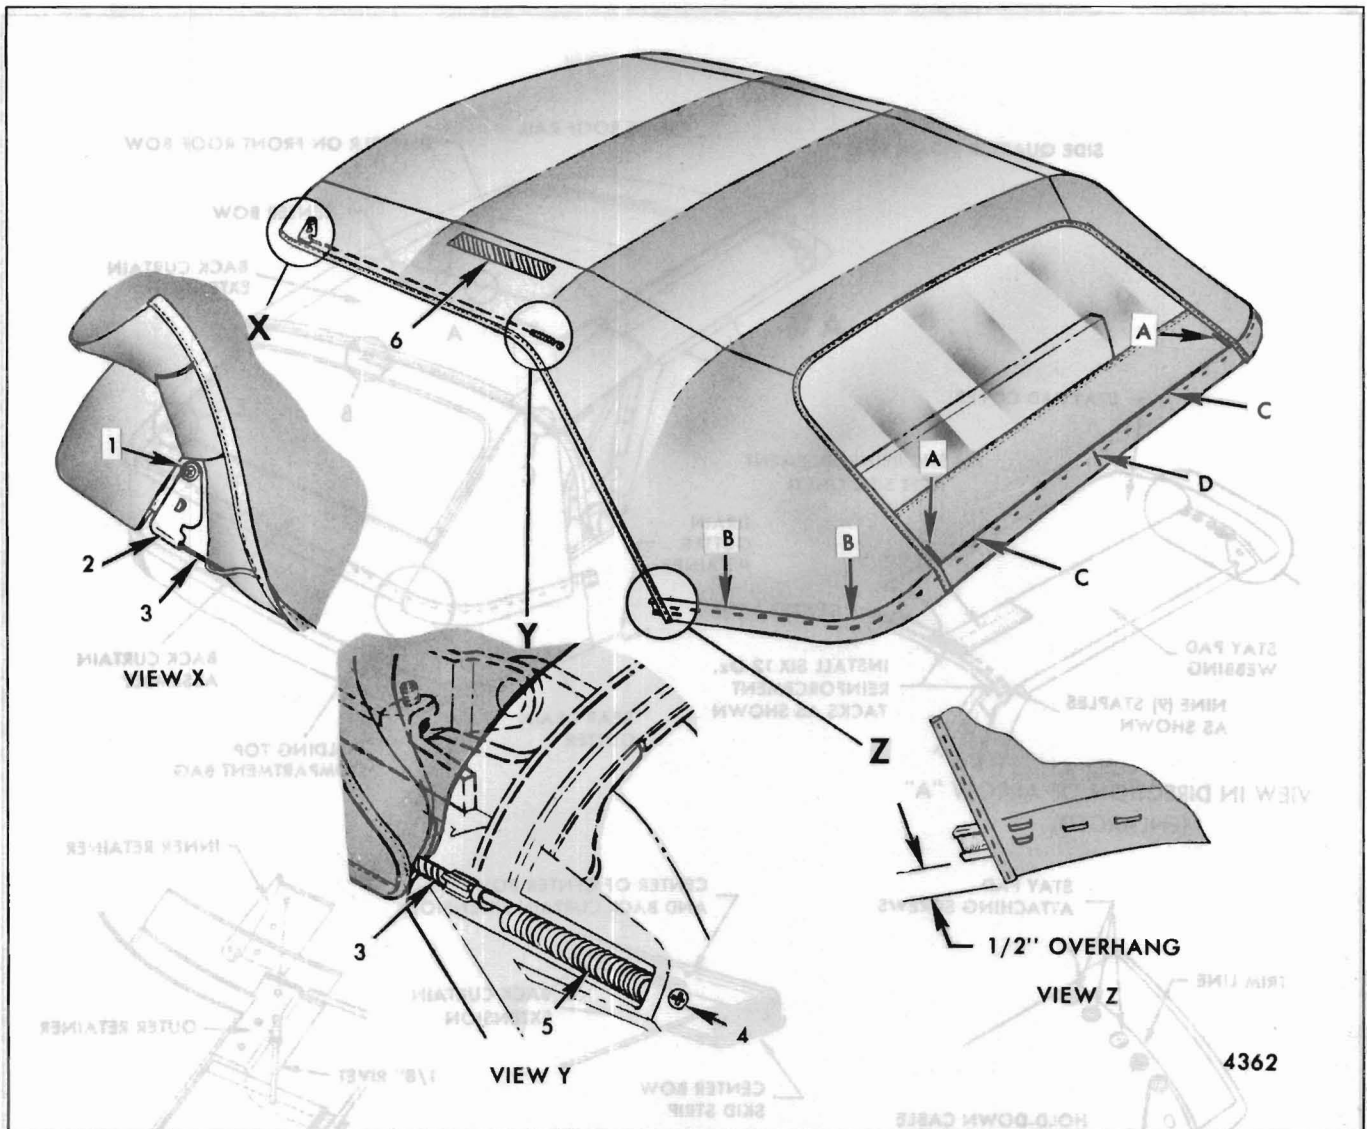
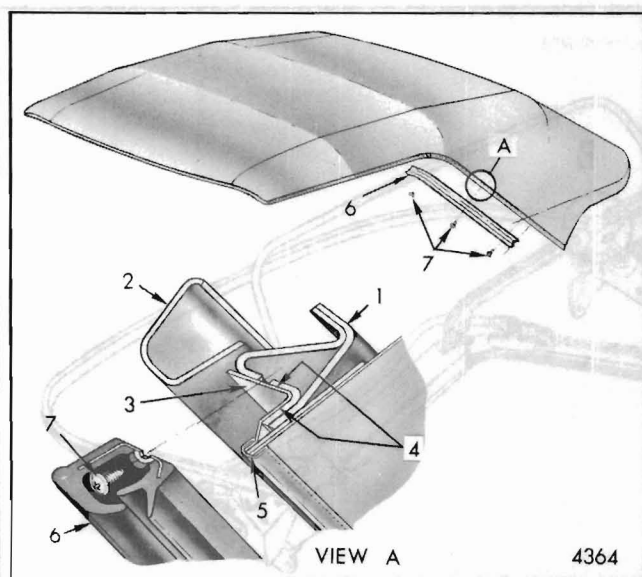

Fig. 4-Hold-Down Cable Attachment and Convertible Top Reference Marking
Fig. 6-Side Roof Rail Rear Weatherstrip and Quarter Retainer Attachment
- D. With top a short distance above windshield header, remove attaching screws, loosen metal tabs and detach hold-down cables at front (Fig. 4).
4. With top lowered half-way, remove side roof rail rear weatherstrips. Mark reference locations of quarter retainers on side rails (Fig. 6) and detach cemented retainers from side rails.
- A. Vertical edge references of top cover on back curtain at trimstick (Item "A", Fig. 4).
- B. Upper edge of trimstick on top cover. Press on trim material to determine accurate position of trimstick before marking (Item "B", Fig. 4).
- C. Upper edge of trimstick on exposed portion of back curtain (Item "C", Fig. 4).
- D. Center mark on trimstick and on back curtain (Item "D", Fig. 4). If none is present, make one.
9. Pull top cover upward and remove hold-down cable from top cover pocket on each side leaving rear of cable attached (Fig. 4).
C. Detach top cover where cemented to side stay pads on left side between front and center roof bows (Item "6", Fig. 4).
1. Since original top cover and back curtain are being replaced, carefully and uniformly cut away bottom of original top cover and back curtain along rear trimstick upper reference marks (Figs. 4 and 10).
- B. With back window openings in alignment, accurately transfer trimstick reference to bottom of new back curtain by following along lower cut valance of original back curtain. Use a suitably pointed and legible marking pencil or tailor's chalk (Item "C", Figs. 4 and 10).
- C. Transfer center reference mark from original back curtain to new one at top (on extension) and at bottom (on valance) (Item "D", Fig. 4).
- D. Transfer top cover vertical edge reference from original back curtain to new one (Item "A", Fig. 4).
- F. With both covers in alignment, transfer trimstick references, right and left, to bottom of new top cover by marking along cut bottom edges (Item "B", Fig. 4).
- B. With aid of helper, align bottom center of back curtain with center of trimstick. At same time, carefully align horizontal upper edge reference mark at upper edge of trimstick (Fig. 4).
- F. Allow 1/2 inch of back curtain to over-hang rear trimstick. Using scissors, cut off excess material beyond 1/2 inch over-hang (View "Z", Fig. 4).
8. Insert hold-down cables in top cover. Use a length of welding rod to facilitate insertion (Fig. 4).
- A. Align top cover at rear vertical reference mark and at trimstick horizontal reference (Items "A" and "C", Fig. 4). With helper holding trim in aligned position, double tack or staple at this location using 12 ounce tacks or equivalent staples.
- B. Apply trim cement to lower area of side roof rear rail and to top cover quarter retainer (flap). Center top (laterally) by aligning horizontal reference on each side at trimstick. Secure quarter retainer (flap) at bottom. Also, double staple or tack top cover at front of trimstick (Fig. 6 and View "Z", Fig. 4) using 12 ounce tacks or equivalent staples.
- C. Align top cover horizontal reference at center (in accordance with steps A and B above) and staple or tack in place. Work forward and rearward from center. Keep material in alignment and flat. Avoid stretching. Space staples or tacks about two (2) inches apart.
- D. Trim off excess material beyond 1/2 inch over-hang (Fig. 4).